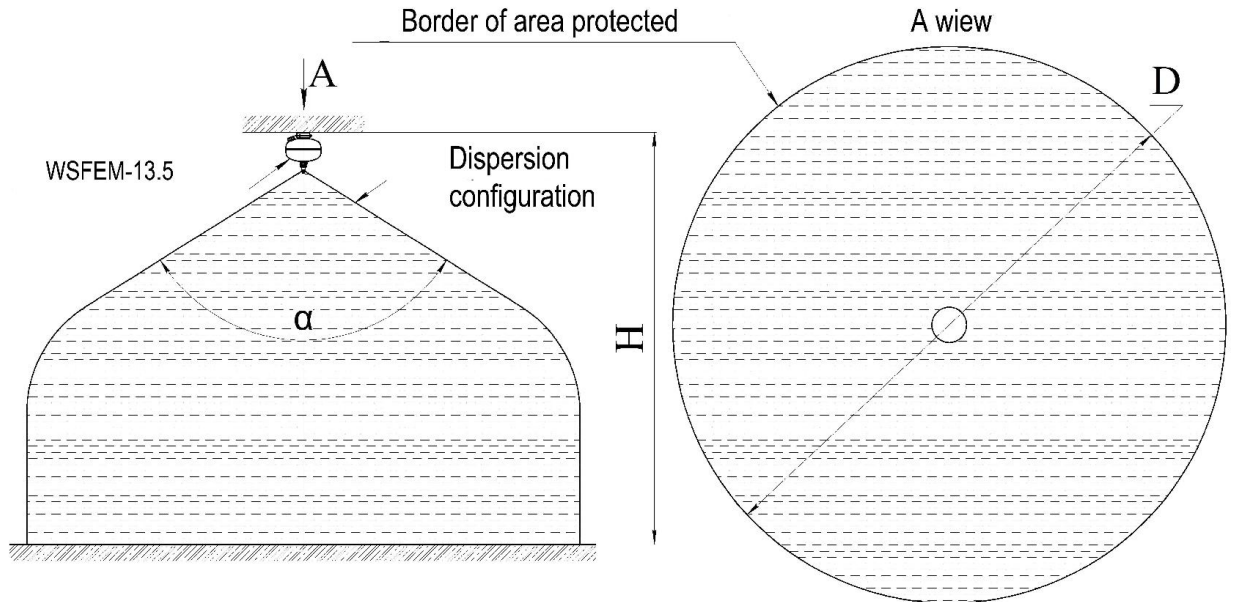

Figure 6
6.8 The configuration of sprayed FES dispersion and image of an area where a fire extinguishing is achieved are shown at Figure 6 and Table 2.